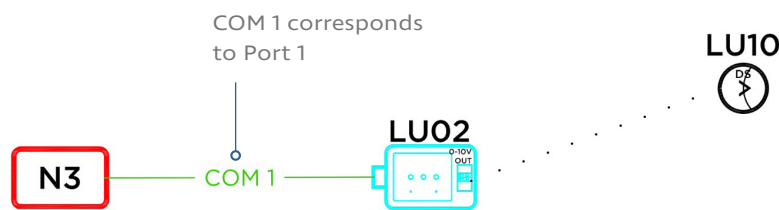

fig. 133
- 4 Consult the Ketra submittal to see which port the photocell is wired to. There are 4 Analog I/O ports on the N3 Satellite. In the Ketra submittal, "COM1" corresponds to Port 1, "COM2" to Port 2, etc. (See fig. 133, next page.)